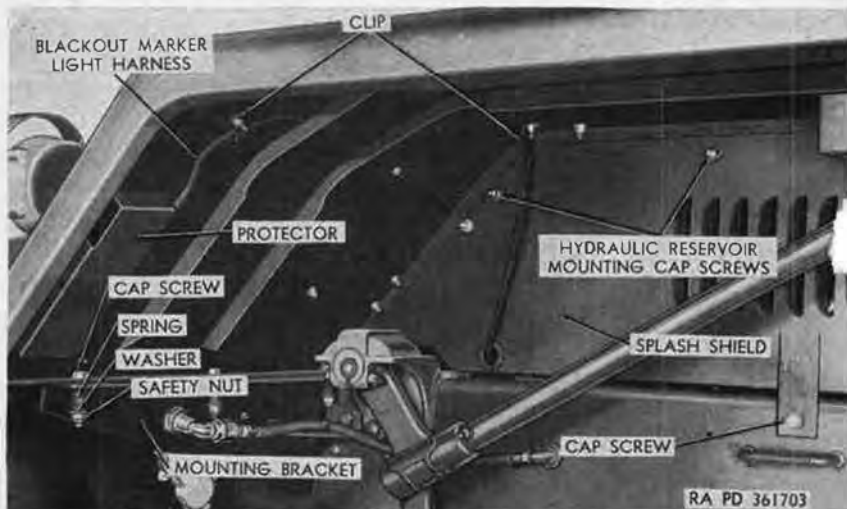

Figure 262. View of underside of left front fender.
- (4) *Hydraulic oil reservoir.* The hydraulic oil reservoir (F, fig. 148) is mounted to the rear of the left headlight support bracket. A mounting bracket attached to the bottom of the reservoir is bolted to the top of the frame left side rail, and mounting brackets attached to the front and rear ends of the reservoir are bolted to the left front fender splash shield (fig. 262). A drain plug is provided in the bottom of the reservoir for draining. A filler screen is installed in the filler opening to prevent dirt or other foreign matter from entering the hydraulic system.